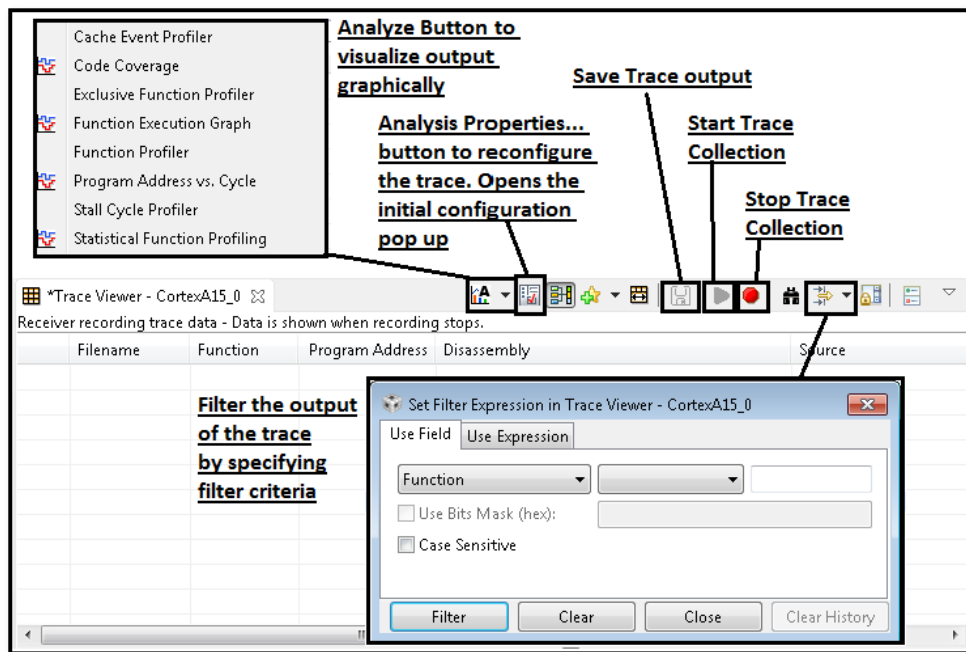

Figure 22. Trace Viewer Window and Controls
- On starting the trace functionality, CCS opens a Trace Viewer window (see Figure 22).